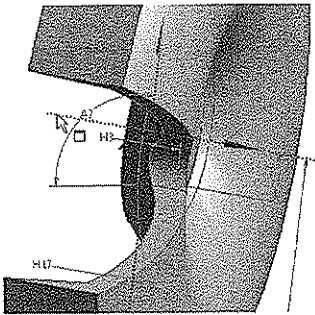

Figure 5-20 Selecting the axis about which the circular pattern will be created
- 8. Click on the X axis, refer to Figure 5-20; the selected axis is highlighted in yellow.